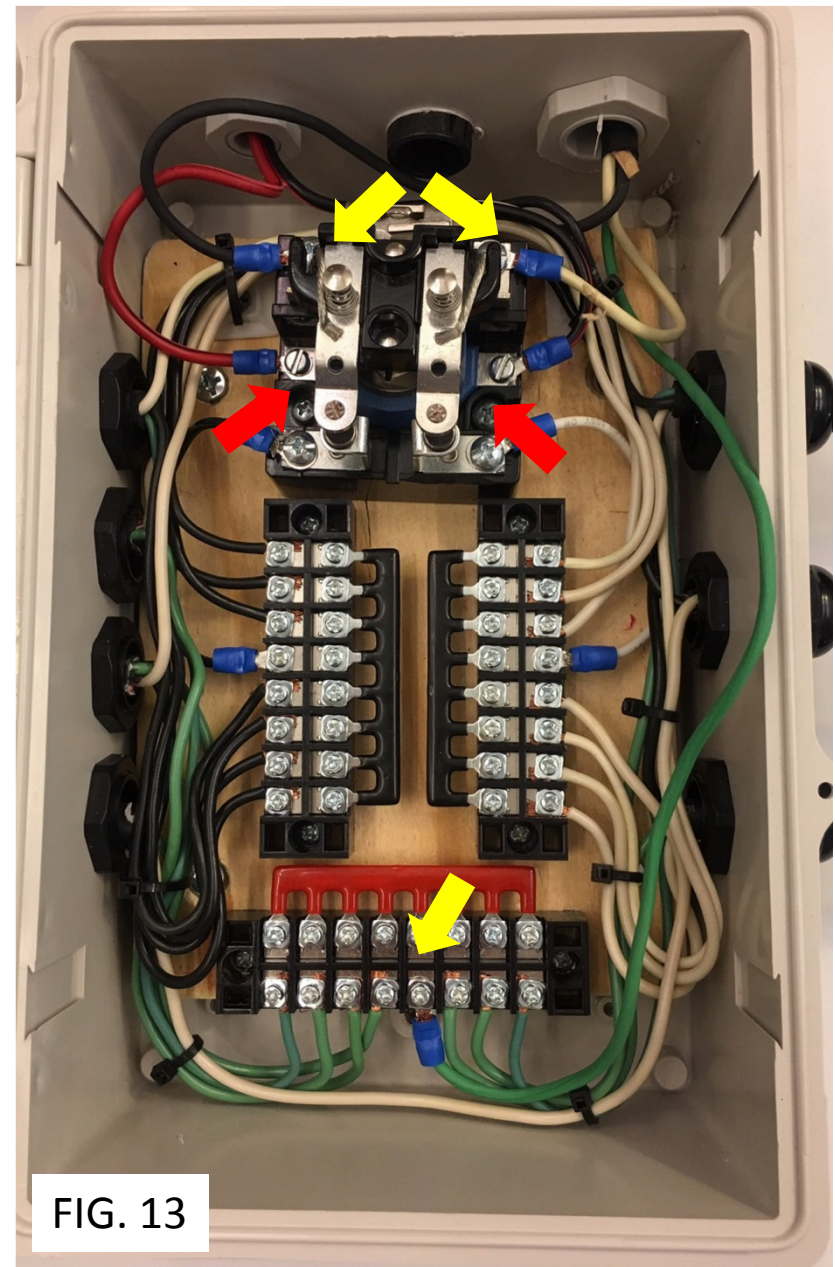

FIG. 13
- Attach 6 cord grips to waterproof box (See Fig. 13 for suggested cord grip locations).
- Connect each blue terminal from the remote box to the middle connection on the 30A relay (red arrows in Fig. 13).
- Connect green terminal end to the ground bus bar (bottom yellow arrow in Fig. 13).